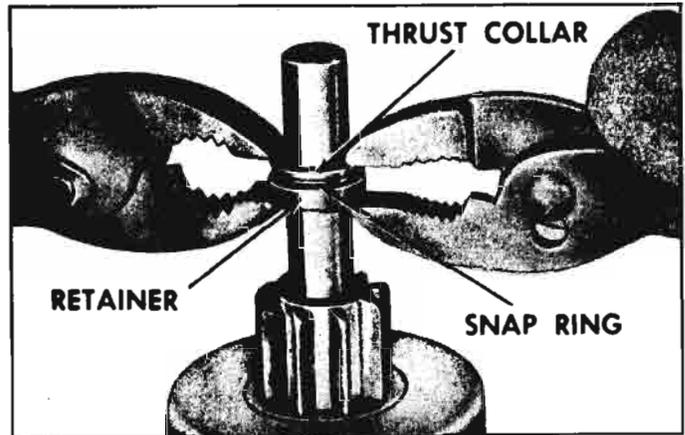

Fig. 8-48—Forcing Snap Ring Into Retainer
- f. Place armature flat on work bench, and position retainer and thrust collar next to snap ring. Then, using two pair of pliers at same time (one pair on either side of shaft), grip retainer and thrust collar and squeeze until snap ring is forced into retainer (fig. 8-48). Be certain shaft is not scored during this operation.